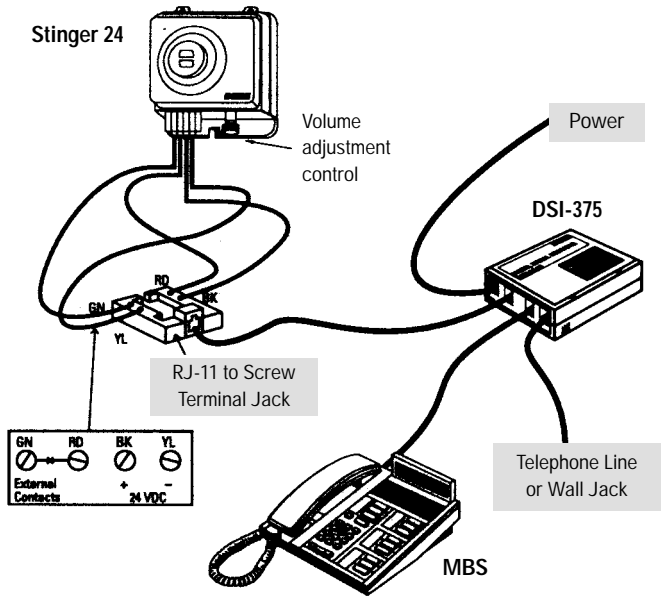

Fig. 5
4. Connect the Stinger 24 to the connecting block making sure that the wires are: GN to GN, RD to AD, YL to YL, and BK to BK as shown in Fig. 5.